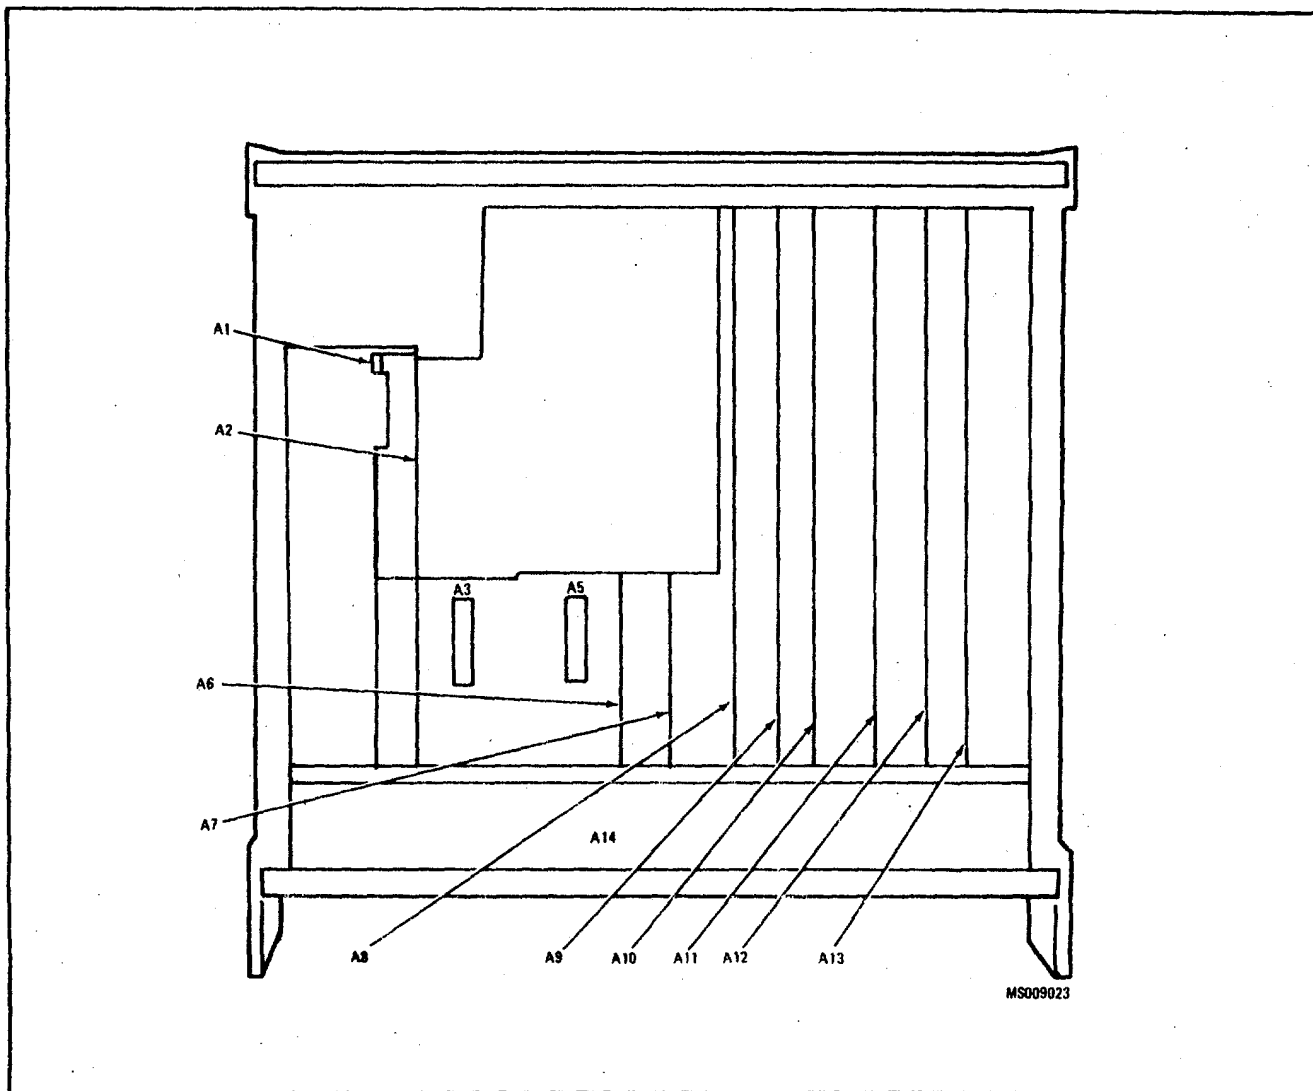

Figure 4-1. ASSEMBLY LOCATIONS
b. Remove top guard chassis by removing the four screws which hold it in place. Access is now provided to the plug-in assemblies shown in Figure 4-1.